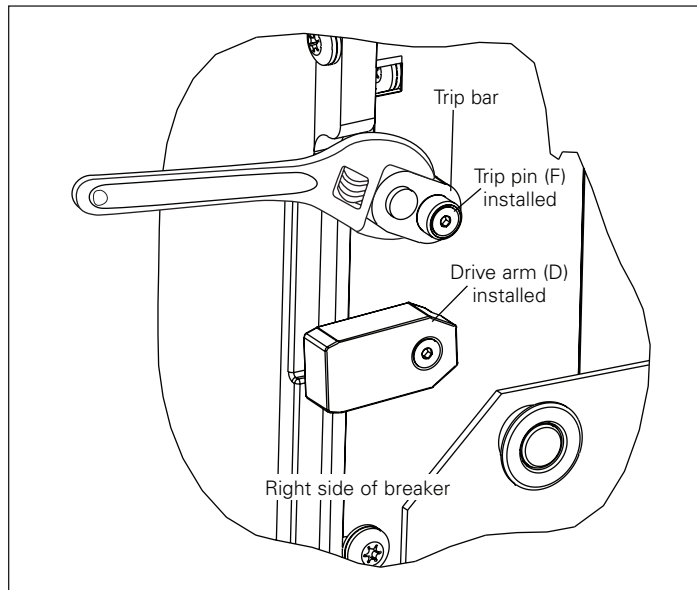
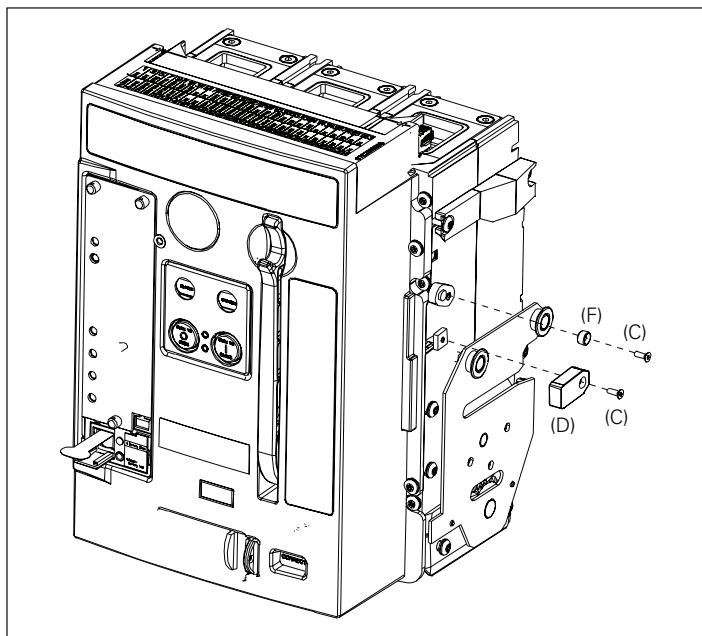

Figure 5. Details for Steps 1 and 2
Figure 4. Details for Steps 1 and 2
Install the drive arm (D) to the end of the pole shaft using one M3 x 8 mm flathead screw (C) as shown in **Figure 4** and **Figure 5**. Apply LoctiteT Blue 242 to ensure that the screw cannot loosen during operation. The drive arm should be oriented as shown in **Figure 4** and **Figure 5**. Torque to 0,3–0,6 N·m (3–5 in-lb).
Install the trip pin (F) to the trip bar using an M3 x 8 mm flathead screw (C) while holding the trip bar with an adjustable wrench as shown in **Figure 4** and **Figure 5**. Apply Loctite Blue 242 to ensure that the screw cannot loosen during operation. Torque to 0,3–0,6 N·m (3-5 in-lb).